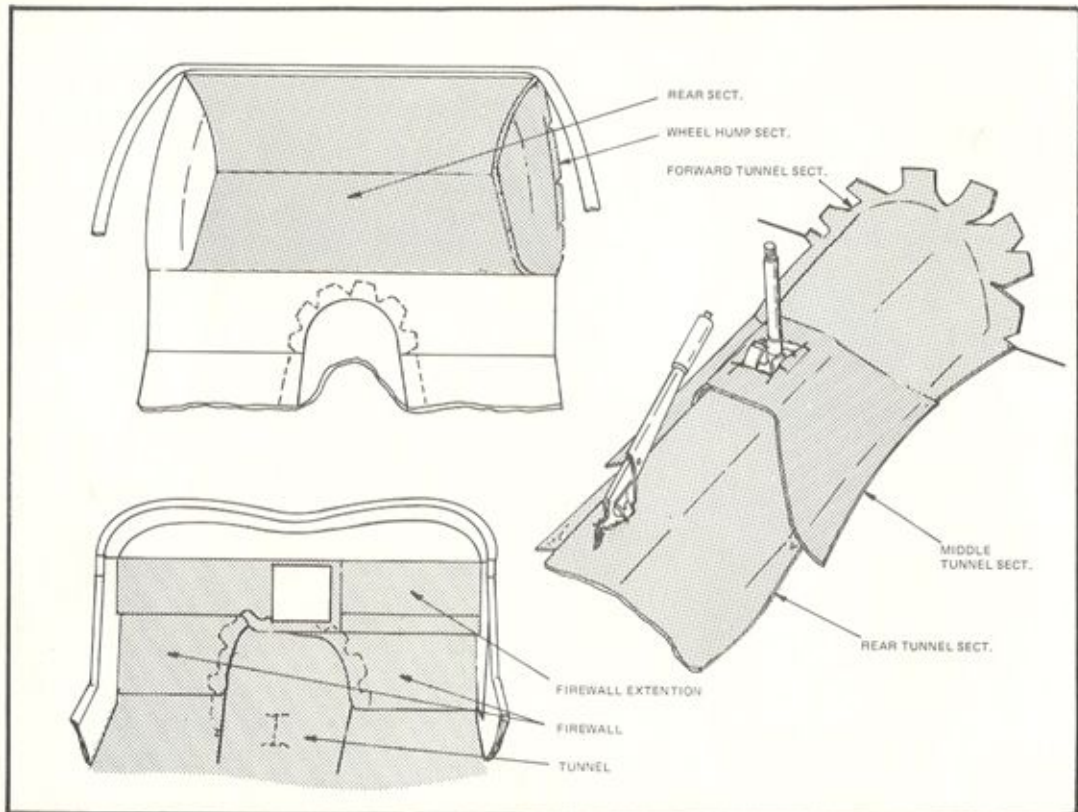

Figure 77
- The first pieces to be installed are the wheel hump sections. (Figure 77) Using spray glue or contact cement, glue the section in place, notching where necessary to allow it to lay flat.
- Fit the rear section in place. Align side edges with wheel humps and rear with top of body. (Figure 77) Glue in place, spreading glue on back and bottom of body. Do not glue corners or part of carpet that drops down toward floor. They will be glued in a later step.